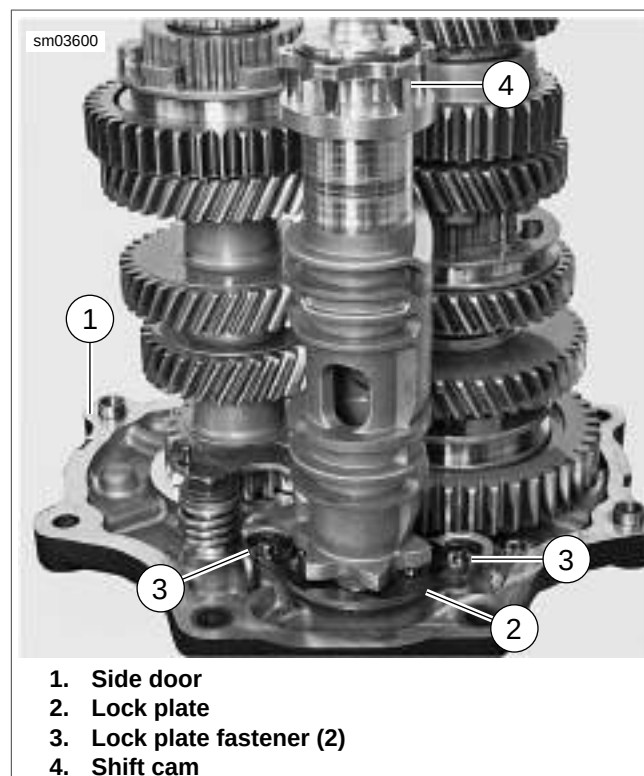

Figure 6-13. Shift Drum
- See Figure 6-13. Remove lock plate fasteners (3) from lock plate (2). Discard fasteners.